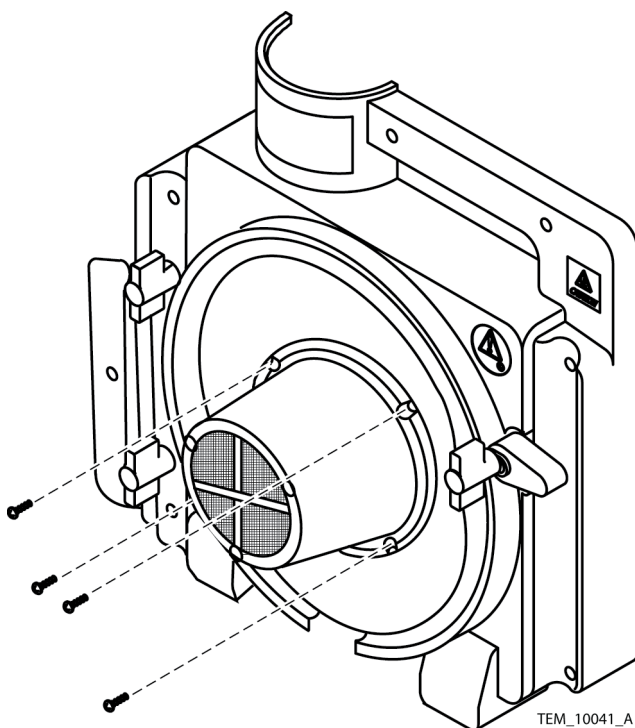

Figure 5-25. Blower Assembly Screws
3. Remove the four screws holding the blower assembly to the rear cover assembly. See Figure 5-25.